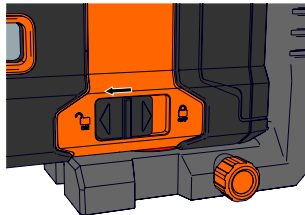

Figure 14
1. Slide the locking compensator/power switch to the left to the unlocked (ON)  position to power on the unit. The level indicator and power indicator will light up. (Figure 14)